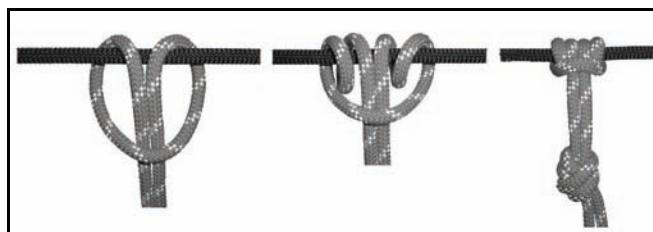

Figure 5-19. Middle-of-the-rope Prusik knot.
(1) **Middle-of-the-Rope Prusik knot.** The middle-of-the-rope Prusik knot can be tied with a short rope to a long rope as follows (Figure 5-19).